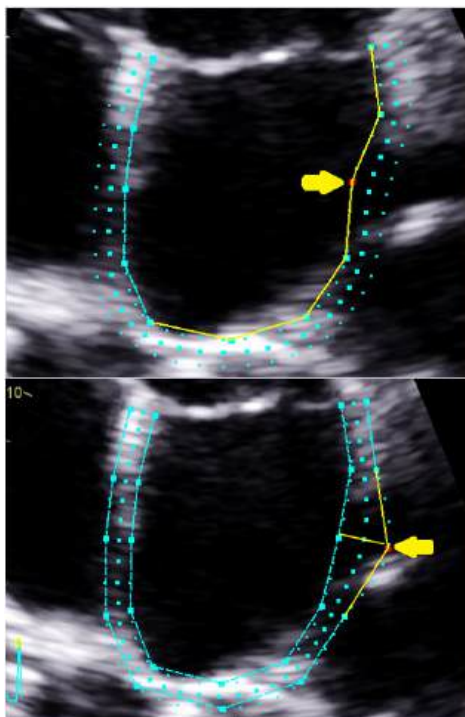

Figure 8-29. ROI editing options
- Click-and-drag (or click, move the mouse, click to release) on the endocardial part of the ROI. Endocardial editing edits the whole ROI (see Figure 8-29, upper part).
- Click-and-drag (or click, move the mouse, click to release) the anchor points on the epicardial ROI (highlighted in red on mouse hovering). Epicardial editing edits the epicardial part only (see Figure 8-29, lower part).